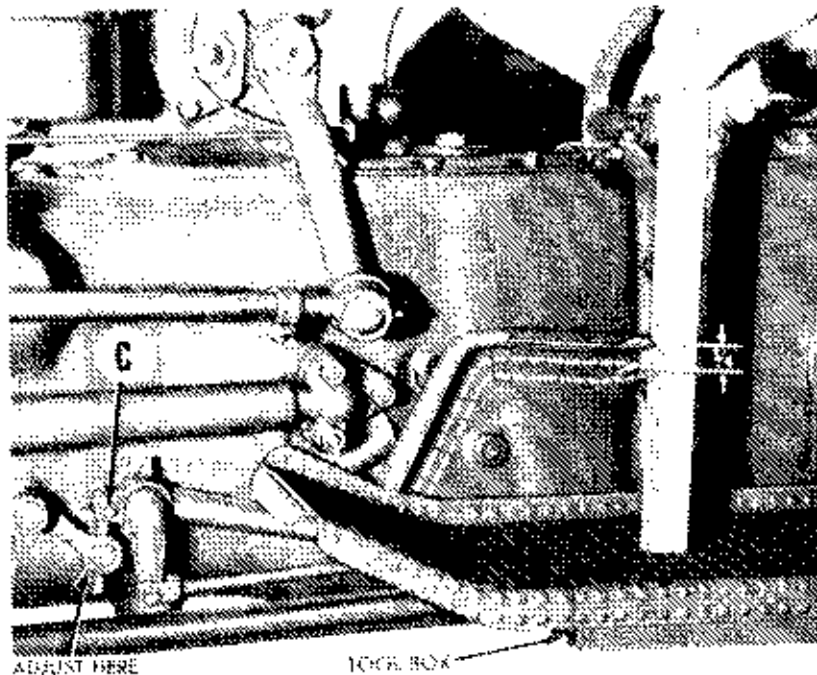

Fig. FO32—To adjust clutch pedal free travel remove pin (C) and rotate the eye bolt.
60. ADJUSTMENT. Refer to Fig FO32. Recommended free travel of clutch pedal is $\frac{3}{4}$ inch as shown. To adjust the free travel, remove the clevis pin (C) and rotate the eye bolt. Rotating the eye bolt clockwise increases the pedal travel; counter-clockwise rotation of the eye bolt decreases the pedal travel.